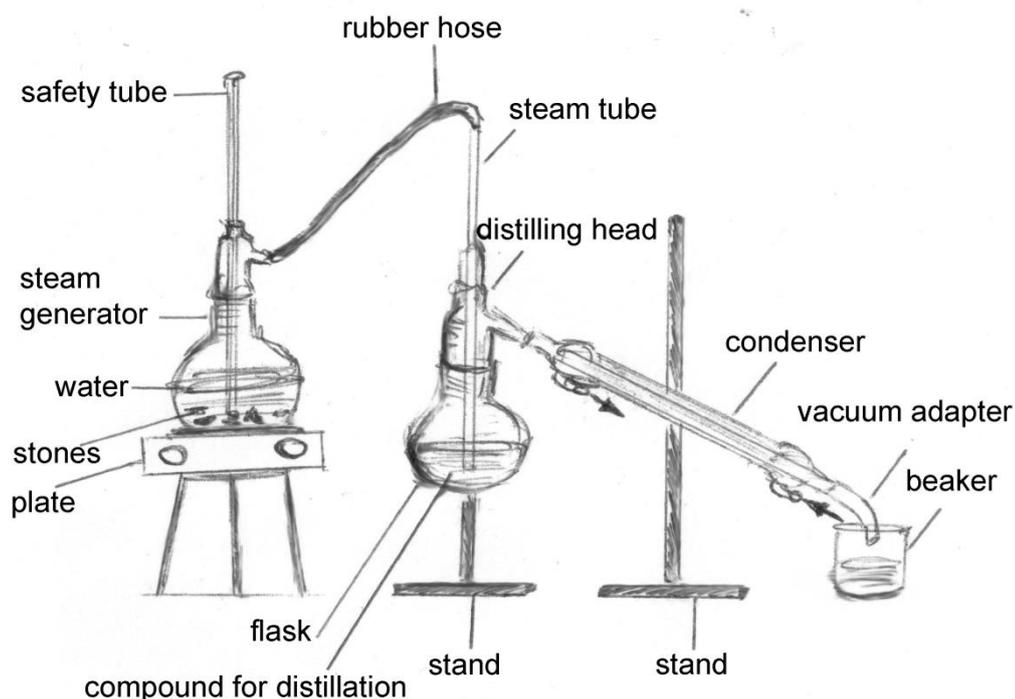

Fig. 3. Installation for steam distillation
A typical apparatus used for the steam distillation of large quantities of material is shown in Fig. 3. The material to be distilled is placed in a round-bottomed
10. Connect the condenser to water according to the Fig 3, using glycerin grease.